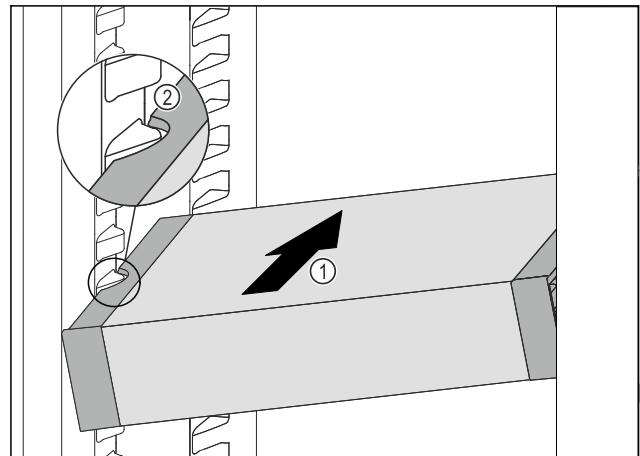

Fig. 117
► Insert the VarioSafe into the fridge section at an angle Fig. 117 (1) until the recesses in the side Fig. 117 (2) of the VarioSafe are at the level of the support rib in the fridge section.